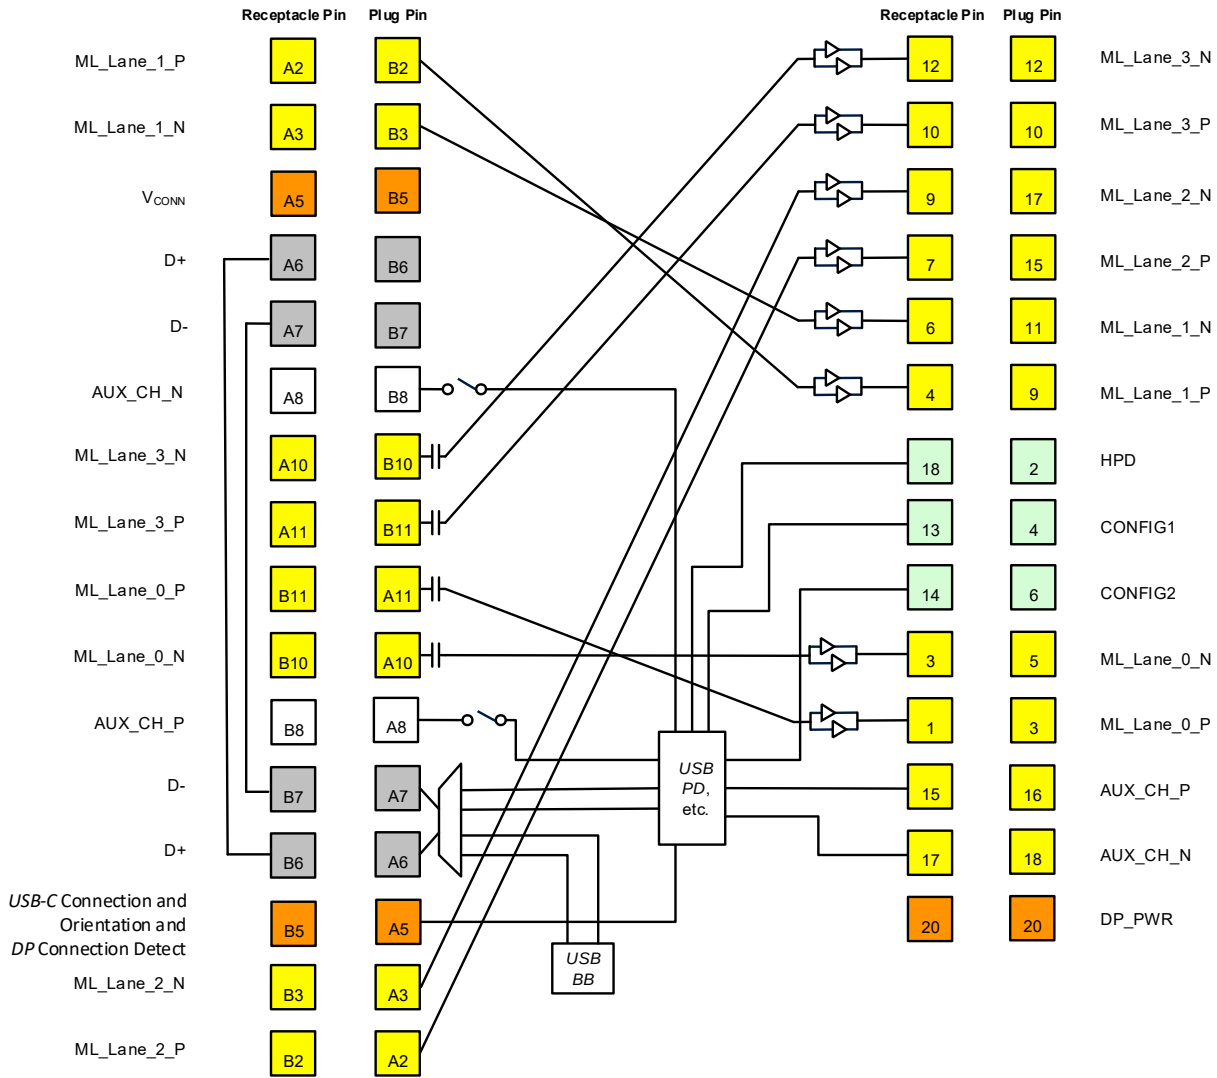

Figure 4-33: Scenario 5a mDP Adapter Wiring – Flipped Plug Orientation
- Figure 4-33 illustrates this use for an mDP receptacle when the *USB-C* plug is inserted in flipped orientation